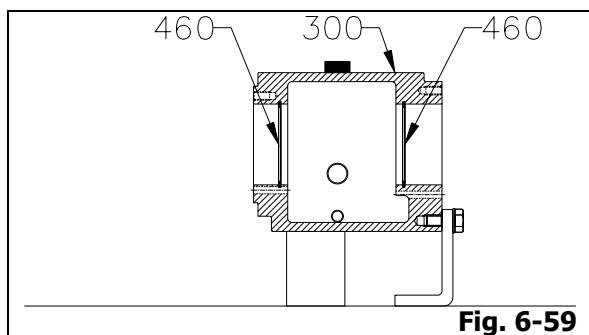

Fig. 6-59
- Install cir clips (460) into bearing frame (300). For open type impeller, cir clip (460) only available on pump end side (Fig. 6-59).